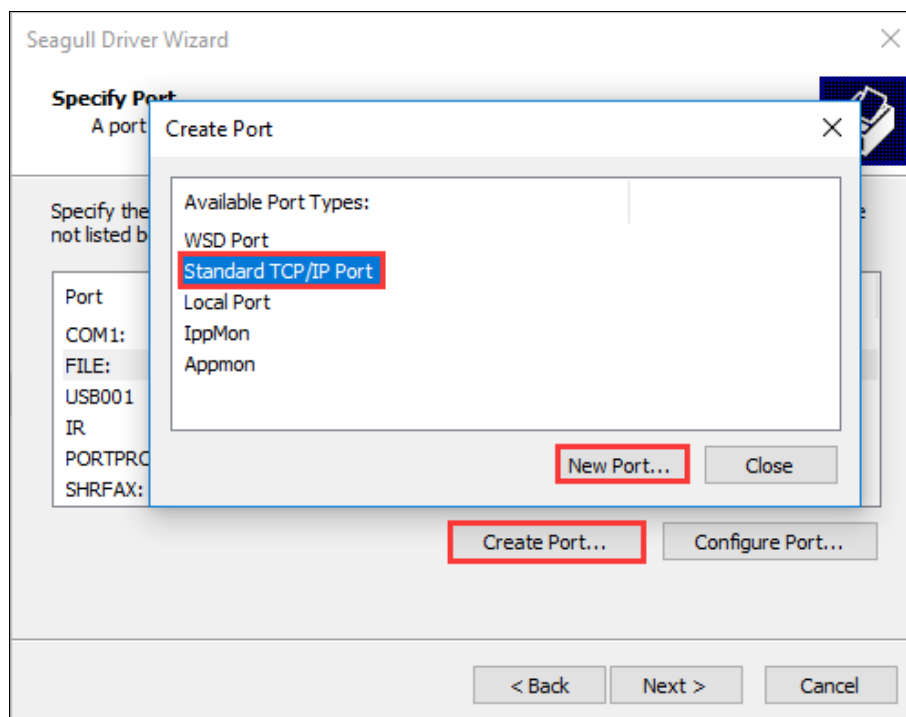

Figure 2-42 Create Port
- On the “Specify Port” screen, click “Create Port...” to bring up “Create Port” dialog box, select “Standard TCP/IP Port” - “New Port...”, as shown in Figure 2-42.